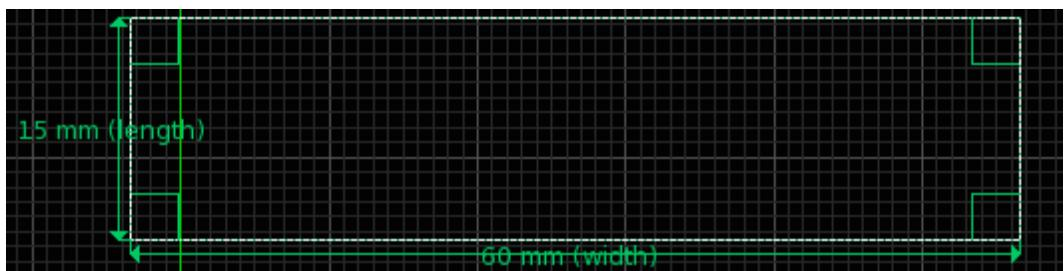

Figure 6.6: The Box with completed side constraints
- Add a constraint to the bottom horizontal side of the rectangle, defining its value as “width”. The finished 2-D cross-section is seen in Figure 6.6.